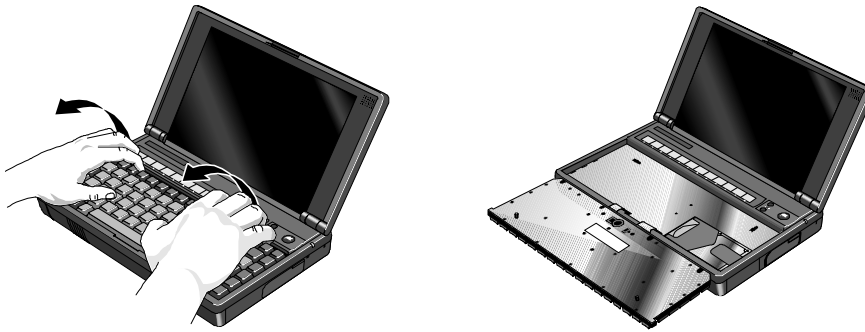

Figure 20 - Folding the Keyboard Open
4. Turn the OmniBook over and open the cover. Grasp the top edge of the Keyboard and fold out gently. Note – the Keyboard Flex Cables do not need to be disconnected. See Figure 20 on page 54.